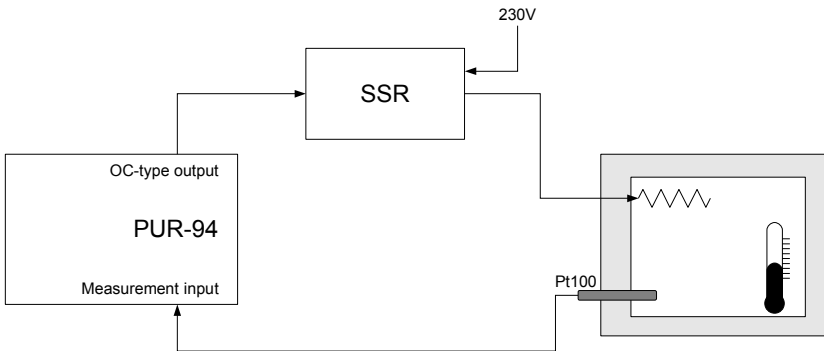

Figure. 10.5 Example arrangement of connections for auto-tuning
- a) Connect the system in accordance to the diagram in Figure. 10.5.